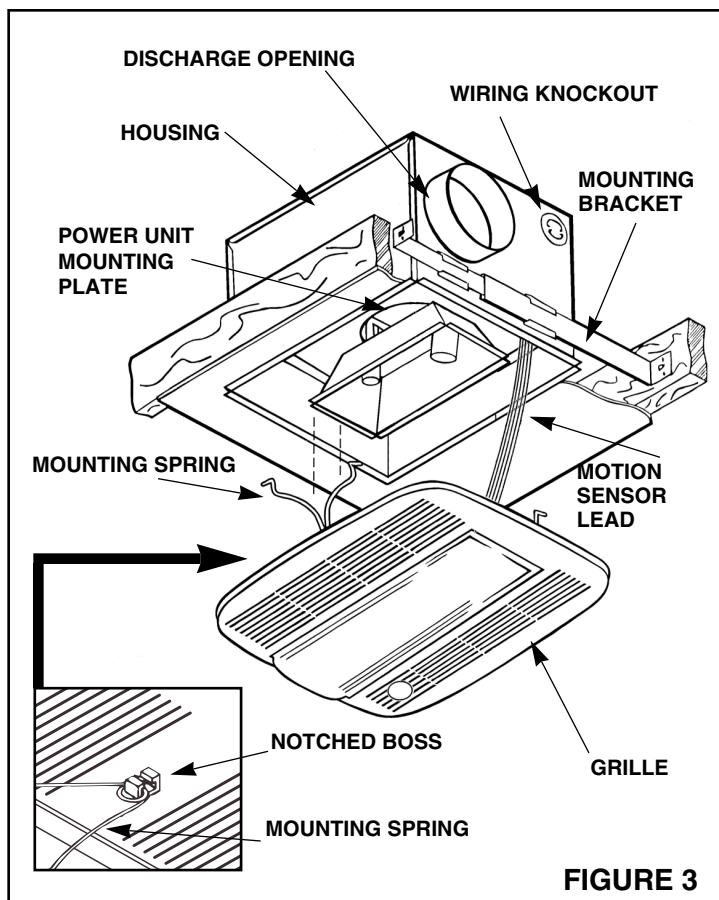

FIGURE 3
1. Refer to Figure 3. Insert mounting brackets at each end of housing.
4. Refer to Figure 3. Securely tighten screws.
1. Refer to Figure 3. Snap grille mounting springs' center loop into notched bosses on the back of grille.